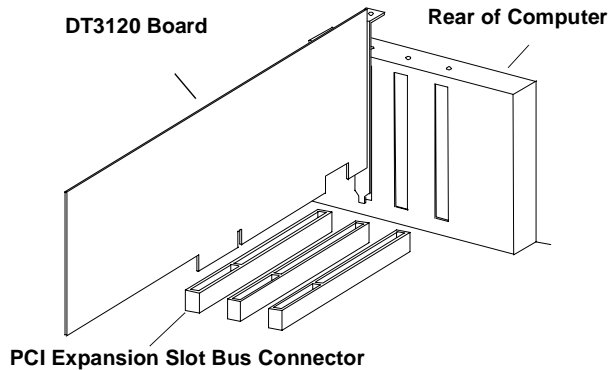

Figure 2: Inserting the DT3120 Board in the Computer
4. Position the board so that the cable connectors are facing the rear of the computer, as shown in Figure 2.